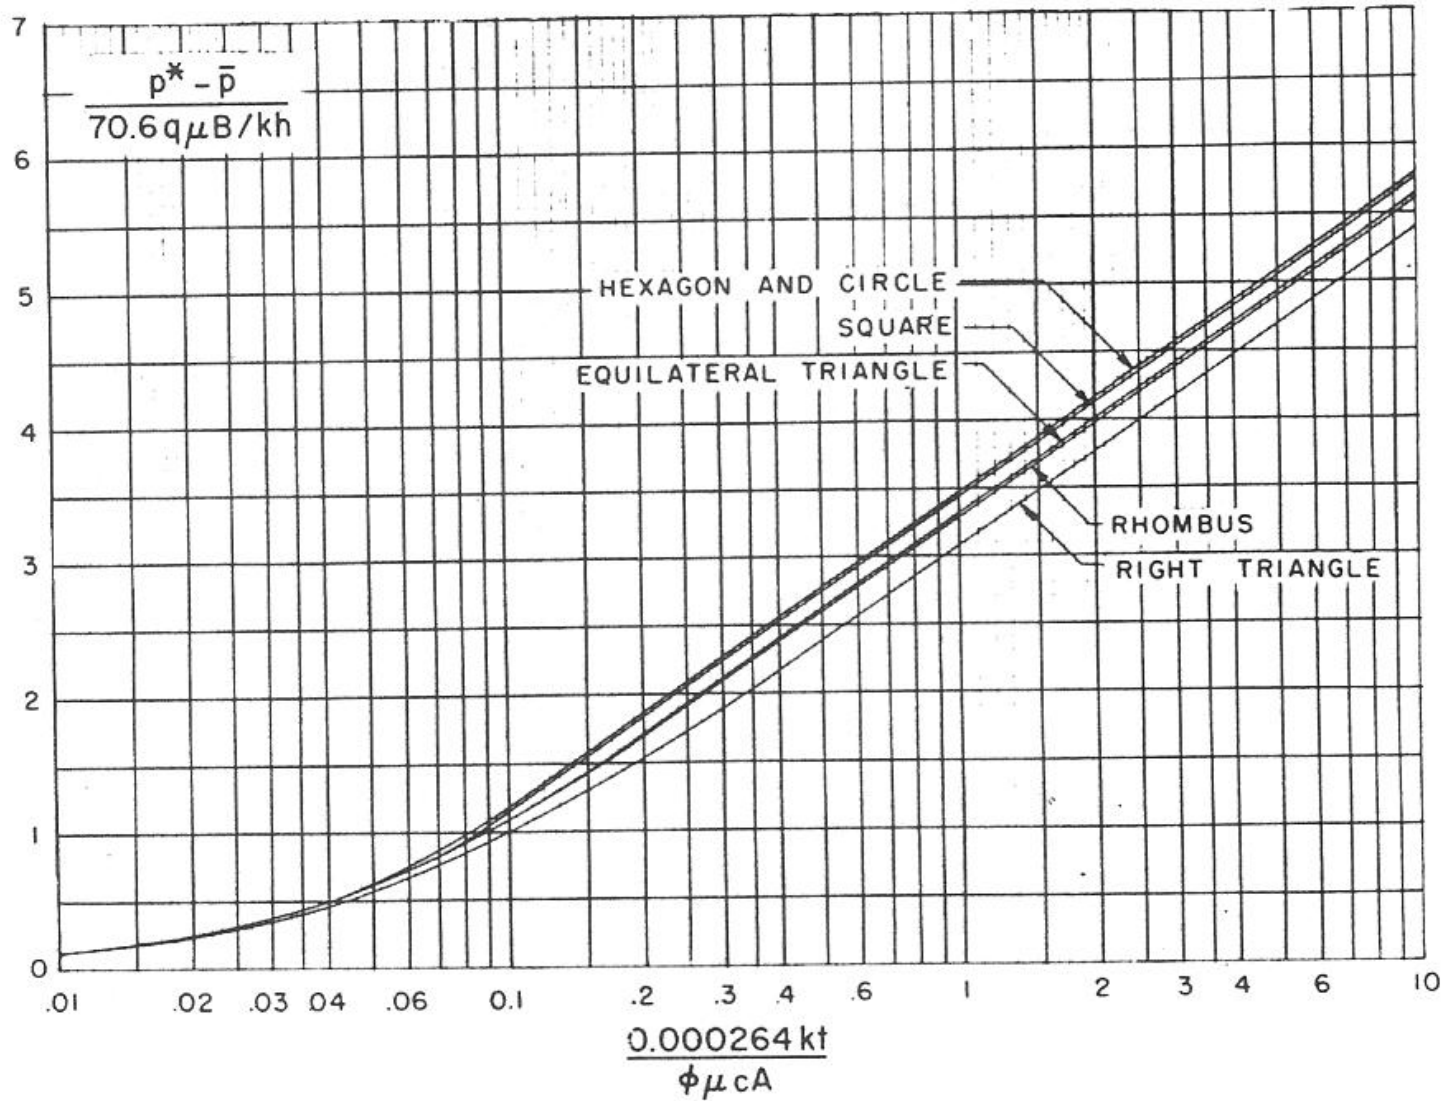

Fig. 2.17A – MBH pressure function for well in center of equilateral figures.
(2) Estimate the drainage area shape:
(3) Choose the proper curve from figs 2.17A through 2.17G (p.36-39) for the drainage - area shape of the tested well
After pseudo - steady state flow has been achieved (figs 2.17A - 2.17G)